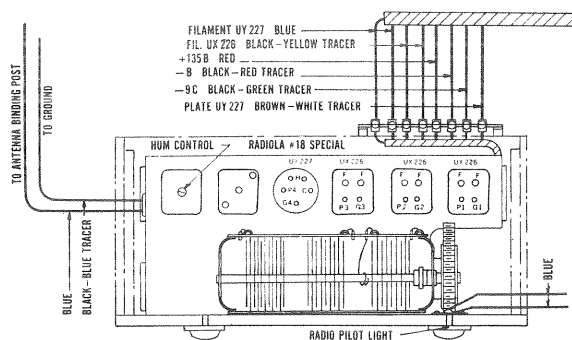

Fig. 1—Radiola Sockets and Terminal Strip
**B. GRID TESTS**—Using the "C" position of the Weston Radio Set Tester, or the high scale of the separate voltmeter, test the "C" voltage in all sockets except the detector. When using the separate voltmeter, place the negative lead in the "G" socket contact as shown in Fig. 1, and the positive
**A. FILAMENT TESTS**—Test the filament voltage across each of the two pairs of filament terminals shown in Fig. 1, using either the Weston Type 537 Tester or a separate A. C. voltmeter of the proper scale reading. The following are the correct readings which should be obtained:
**B. PLATE SUPPLY**—Using the high range voltmeter binding posts of the Set Tester or the high range scale of the separate D. C. voltmeter, test between the —B and the +135B terminal (See Fig. 1) and between the —B and Plate UY-227 terminal. The following are the approximate readings which should be obtained: